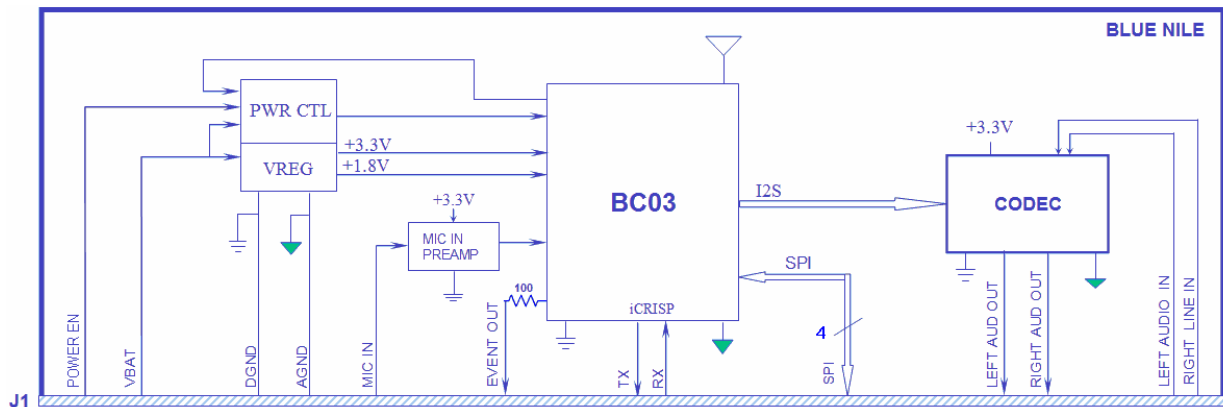

Figure 1. Blue Nile Block Diagram
1. Make the connections as described in **Figure 1**.